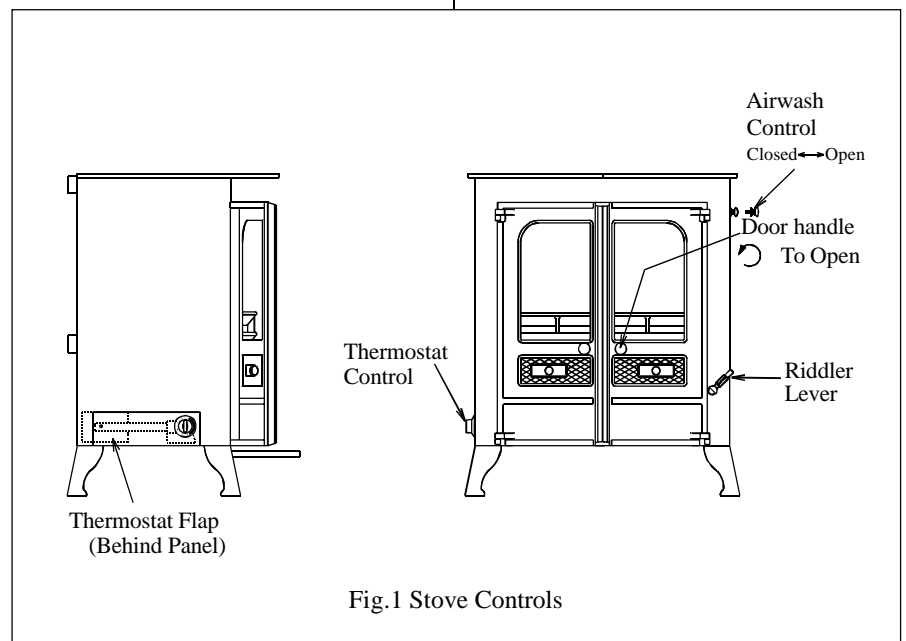

Fig.1 Stove Controls
Use the door opening and ashpan tool to open and close the doors. Turn the right-hand door knob anti-clockwise to open and clockwise to close.(see Fig.1)
or fire lighters, and kindling on the grate and cover with approximately 2 inches of fuel. Turn the control knob to maximum, and open the airwash control fully (see Fig. 1). Light the paper or fire lighters. Close the doors until the fuel is well ignited then load with fuel and adjust the air controls to the required setting.
The rate of burning and hence the output is controlled by the control knob on the side of the fire and the airwash control (see Fig. 1).
- c) the thermostat flap is closed (at the bottom of the left hand side of the appliance, see Fig. 1.) and that it is not prevented from closing completely by a piece of ash,